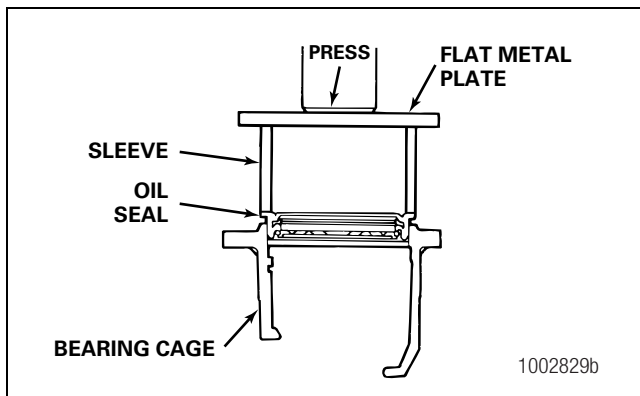

Figure 5.110
- Use a press and sleeve, or a mallet and sleeve, to install the seal into the cage. The seal is correctly installed when the metal flange of the seal seats on the top of the cage. Figure 5.110.